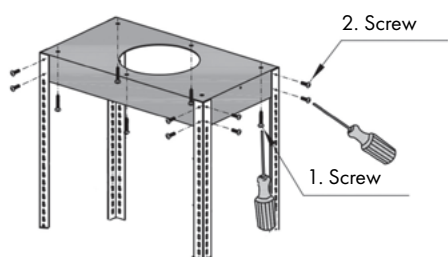

Figure 1
2. Attach the transition piece and ducting to top of the hood. *Figure 1 and 2*